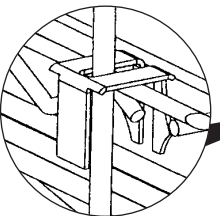

figure 9
- Clip the rods to the bottom shelf with the clips provided (see *figure 9*).